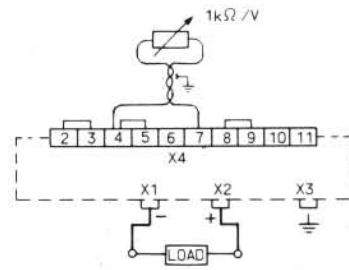

Fig. 8d. Remote voltage control with external resistor
- a. By connecting a resistor of $1\text{ k}\Omega$ per volt output voltage as shown in Fig. 8d. The internal coarse and fine voltage controls R1 and R2 must be turned completely to the right. During operation no connections may be interrupted.
To prevent additional ripple voltage at the output terminals, the wires should be twisted and/or screened as shown in Figures 8d. and 8e.